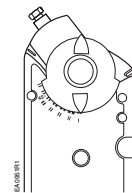

Figure 6.
- Place the position indicator to the "0" position on the outside scale. See Figure 6.
- Remove the shaft adapter and insert it with the position indicator pointing to the mark on the scale calculated in the previous step. See Figure 6.